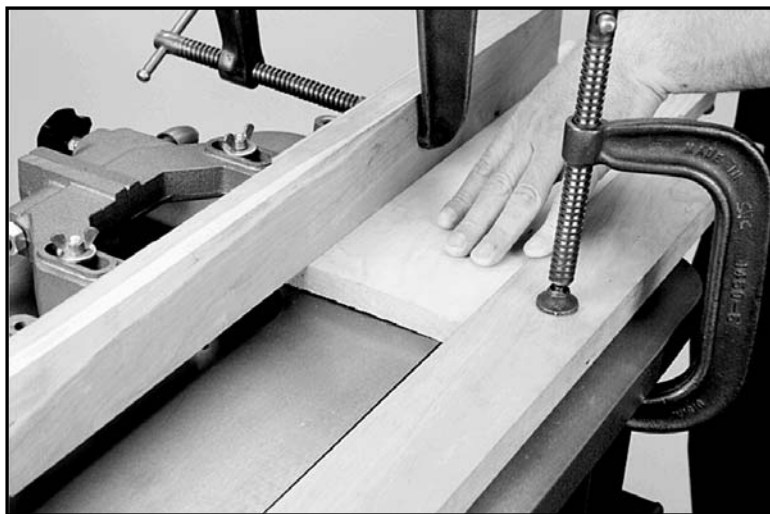

Figure 21
6. Use a hold-down, or other safety device. See Figures 21 and 22.